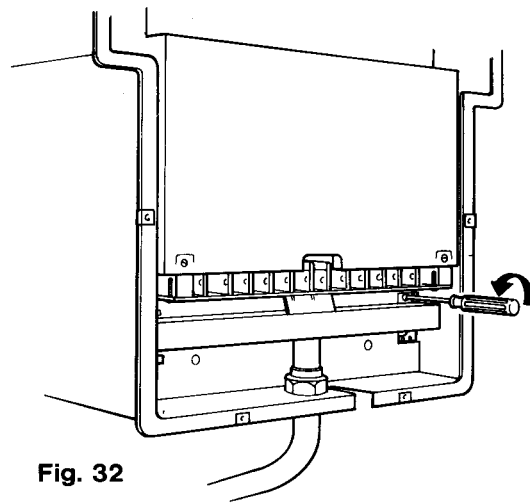

Fig. 32
8.6 To remove burner bar & main injectors (figs 32 & 33)
8.7 To remove main burner (figs 32 - 35)